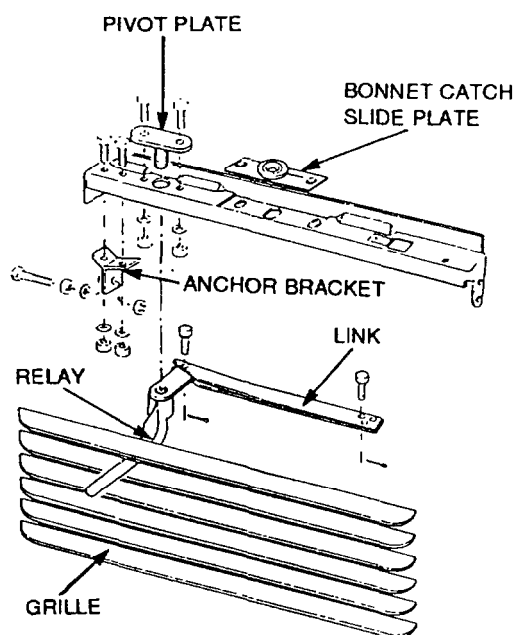

Figure 180 Bonnet Mechanism
- e. Remove the bolts, nuts and washers securing the pivot plate to the grille panel (Figure 180).
- a. Install the link to the relay with the clevis and a new split pin (Figure 180).